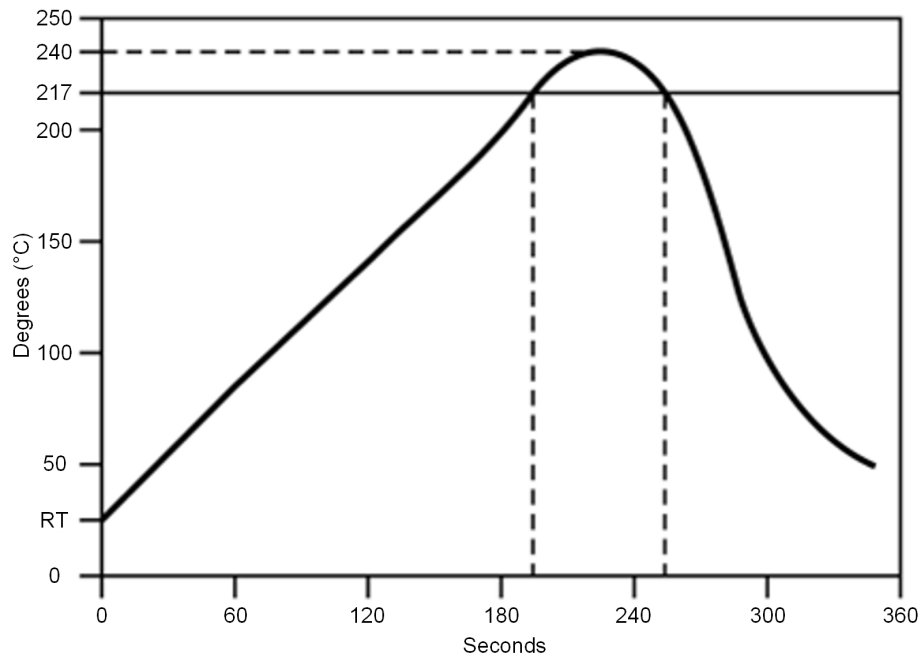

Figure 8-1. Temperature Profile for Evaluation of Solder Heat Resistance of a Component (at Solder Joint)
- Temperature measurement: Thermocouple $d = 0.1\text{ mm}$ to 0.2 mm CA (K) or CC (T) at soldering portion or equivalent method
- Allowable reflow soldering times: 2 times based on the reflow soldering profile (see Figure 8-1)
- Temperature profile: Reflow soldering will be done according to the temperature profile (see Figure 8-1)